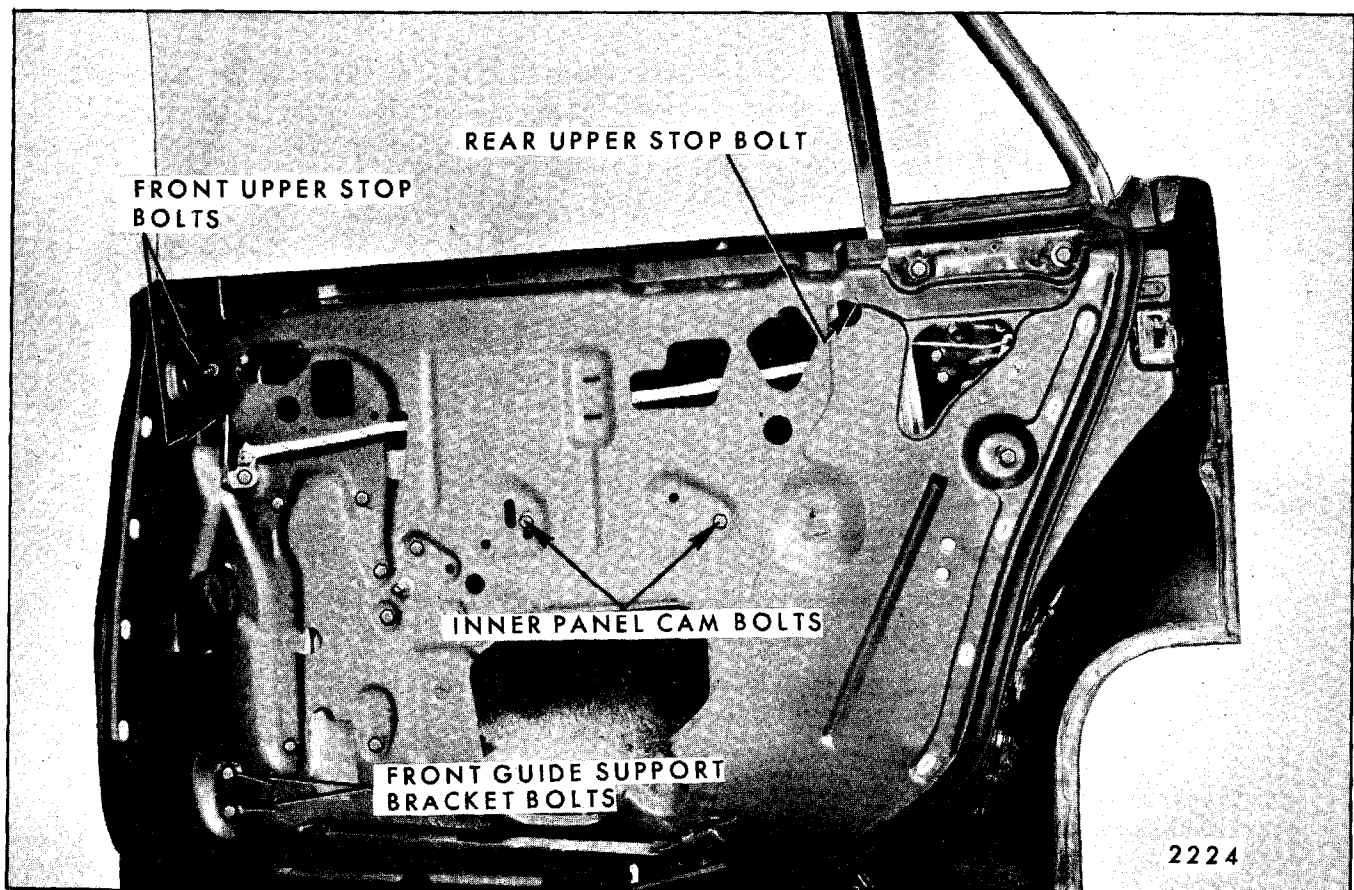

Fig. 7-139—Rear Door Window Removal - 68069-68169 Styles
2. With glass in full-up position, remove front and rear up-travel stop attaching bolts, two bolts on front stop, one on rear (Figs. 7-139 and 7-140).
4. To correct a rotated (cocked) window, loosen inner panel cam attaching bolts (Fig. 7-139). Adjust cam as required and tighten bolts.
5. To obtain proper up-travel of door window, loosen front and rear up-travel stop attaching bolts (Fig. 7-139). Operate window to desired position. While exerting upward force on stops, tighten stop attaching bolts.
6. To eliminate a bind between ventilator division channel and front guide (improve operation of a properly adjusted door window), loosen front guide support bracket attaching bolts and front guide to support bracket attaching bolt (Figs. 7-139 and 7-144). Operate glass to full-down position and tighten support bolts. Operate glass 1/3 up from down position and tighten guide to support attaching bolt.